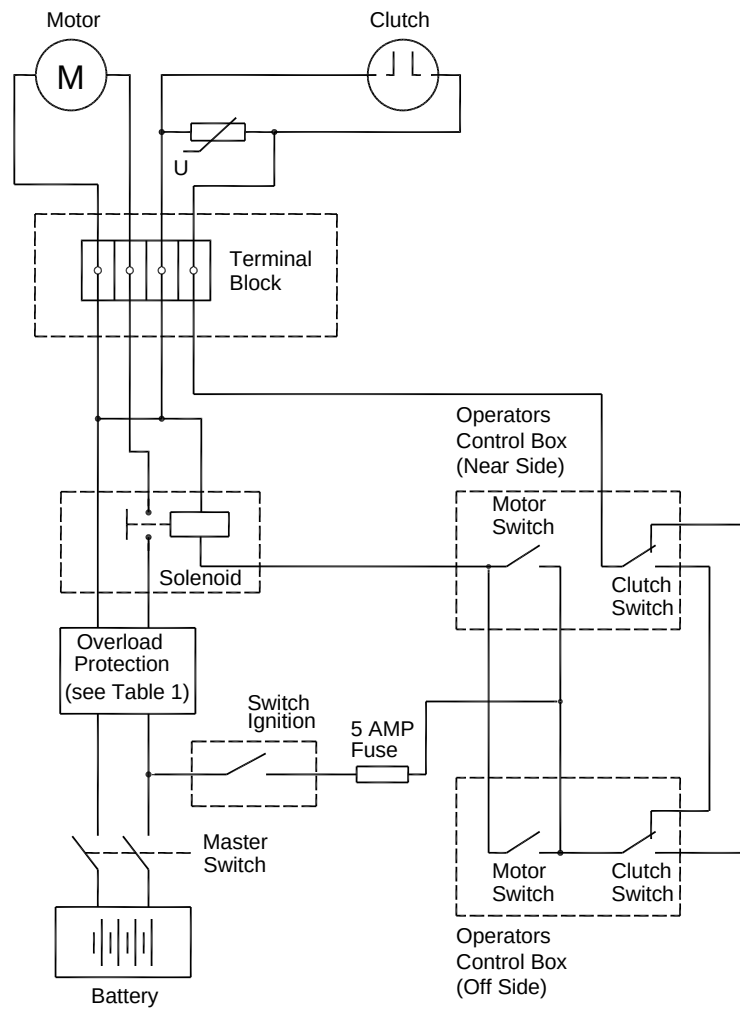

Figure 3 – Wiring diagram
2.2.2 Complete the electrical installation using the terminals in the motor connection box and separate connection box on the clutch. Refer to wiring diagram, figure 3.